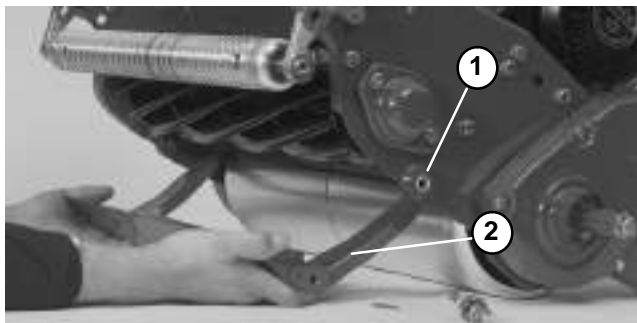

Figure 30
3. Install new nylon bushings into both sides of the frame (Fig. 30).